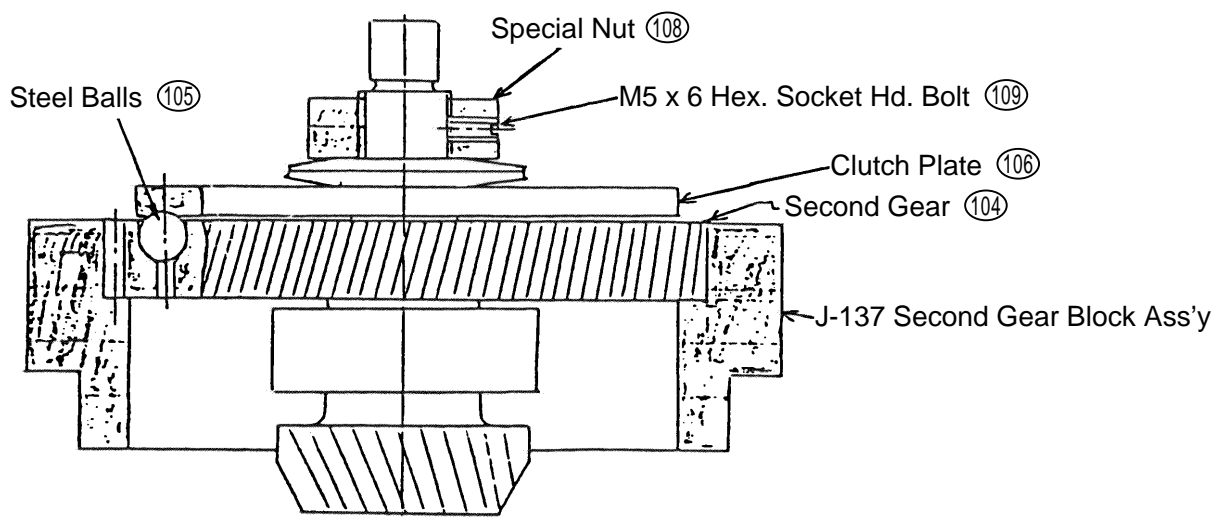

Fig. 6
To disassemble the slip clutch portion, secure a J-137 Second Gear Block Ass'y (Special Repair Tool, Code No. 970917) in a vise, insert the Second Gear (104) in the block ass'y as illustrated in Fig. 6, and